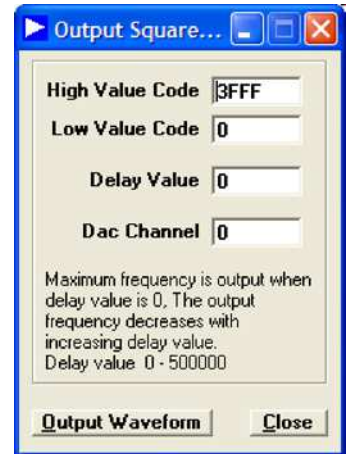

Figure 3.
2. A new dialog box opens, as shown in Figure 3.